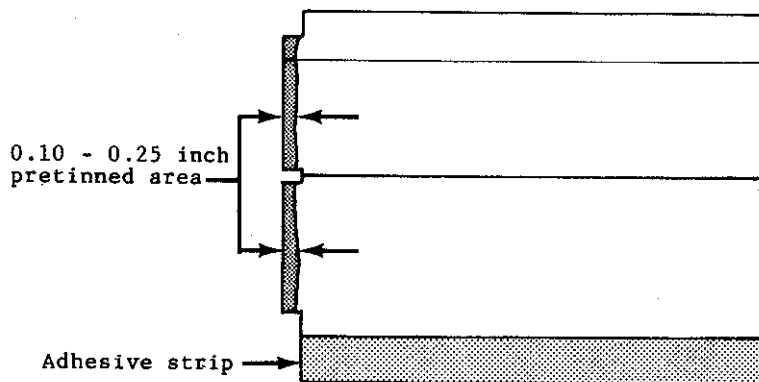

Figure 7-7. Pretinning Wraparound Shield
3. Pretin the bare copper side of each flap as shown in Figure 7-7.